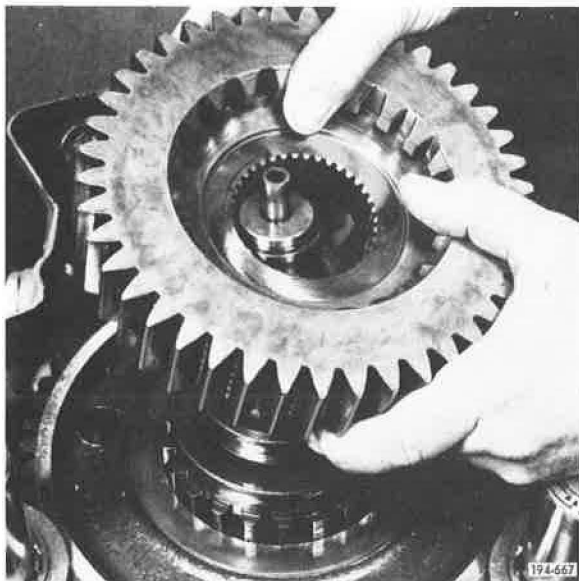

Figure 364. Installing Gear
23. Install compound main drive gear. See Figure 364.